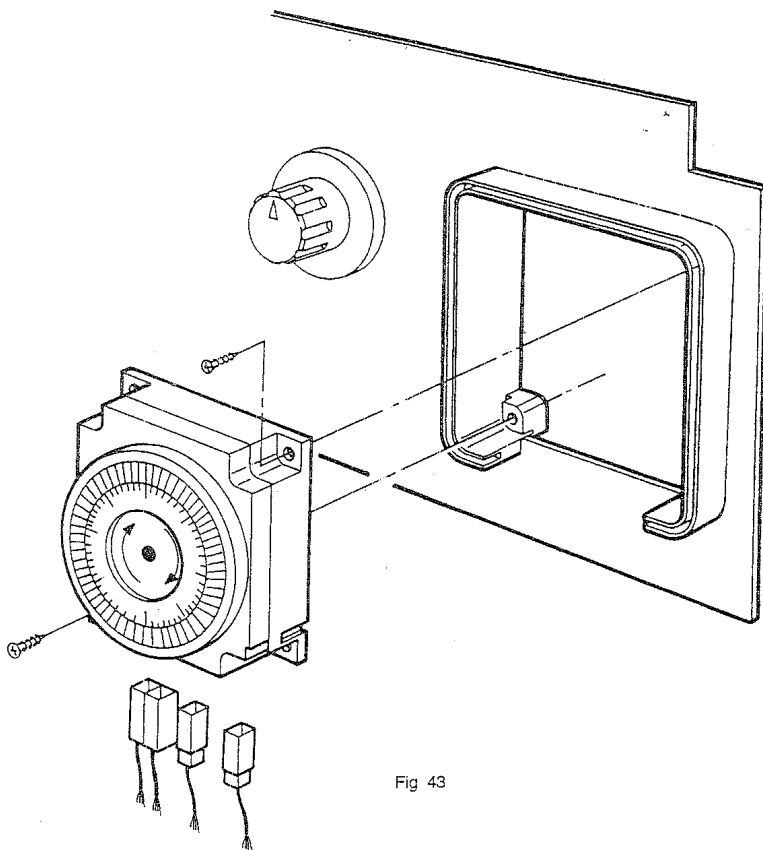

Fig 43
- c) Remove the time clock from the control panel (fig. 43)
- d) Re-assemble in reverse order (refer to fig. 43 for replacement of the time clock).